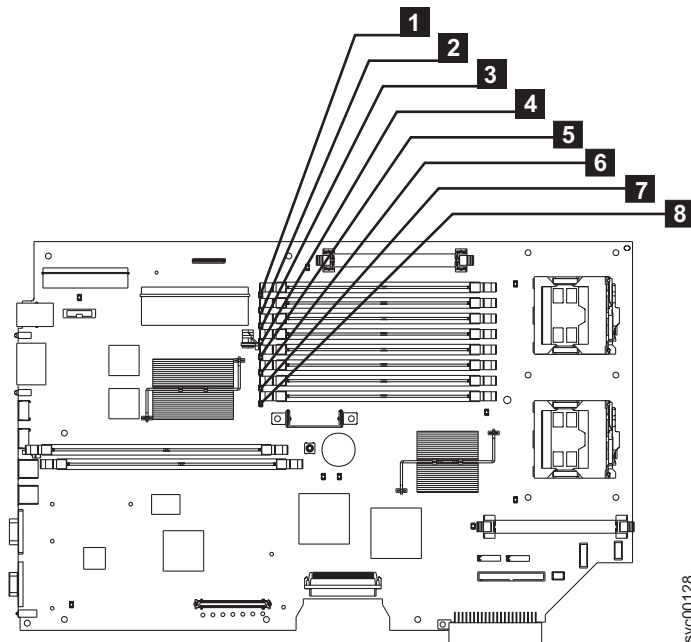

Figure 98. Locating the SAN Volume Controller 2145-8F2 or SAN Volume Controller 2145-8F4 memory modules
- SAN Volume Controller 2145-8F4 or SAN Volume Controller 2145-8F2: These modules are numbered **1** through **8**, as shown in Figure 98.